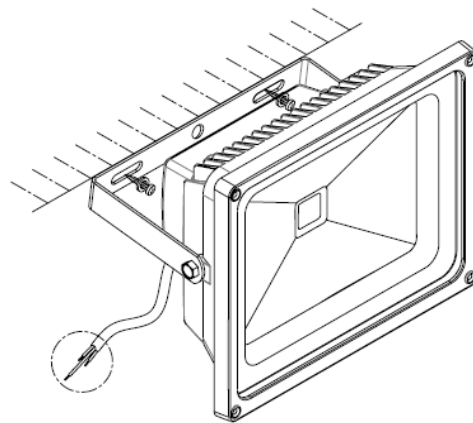

FIG. 1
3. Use expansion bolts to secure the fixture on mounting surface (See Fig. 1).